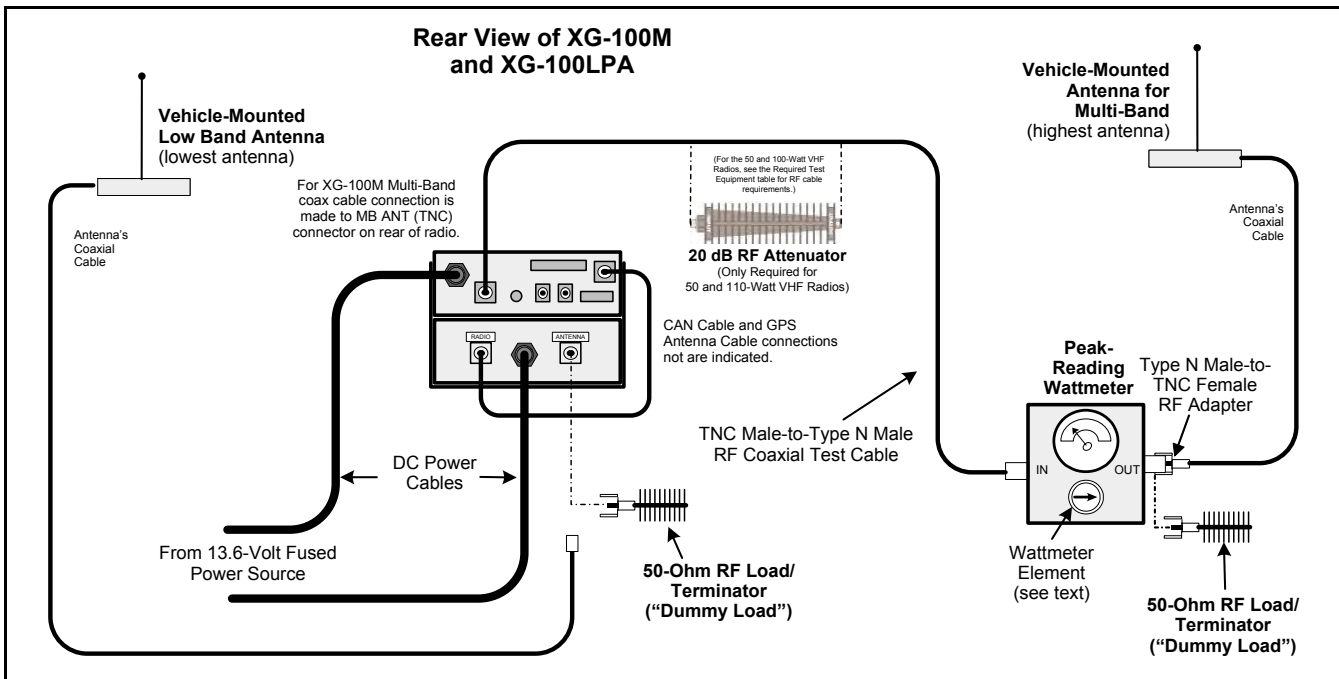

Figure 17-1: Wattmeter Connections for Unity mobile MRU Antenna Tests
4. Using the Type N male to TNC male coaxial test cable, connect the antenna connector on the rear of the MRU (connector labeled “MB ANT”) to the wattmeter’s input connector. Refer to Figure 17-1 as necessary.
7. Connect the other 50-ohm RF load/terminator to the LBPA (connector labeled “ANTENNA”). Use the Type N female to TNC male RF adapter. Refer to Figure 17-1 as necessary.
4. Connect the cable from the vehicle-mounted MRU antenna (cable labeled “MRU Antenna”) to the wattmeter’s output connector, as shown in Figure 17-1.